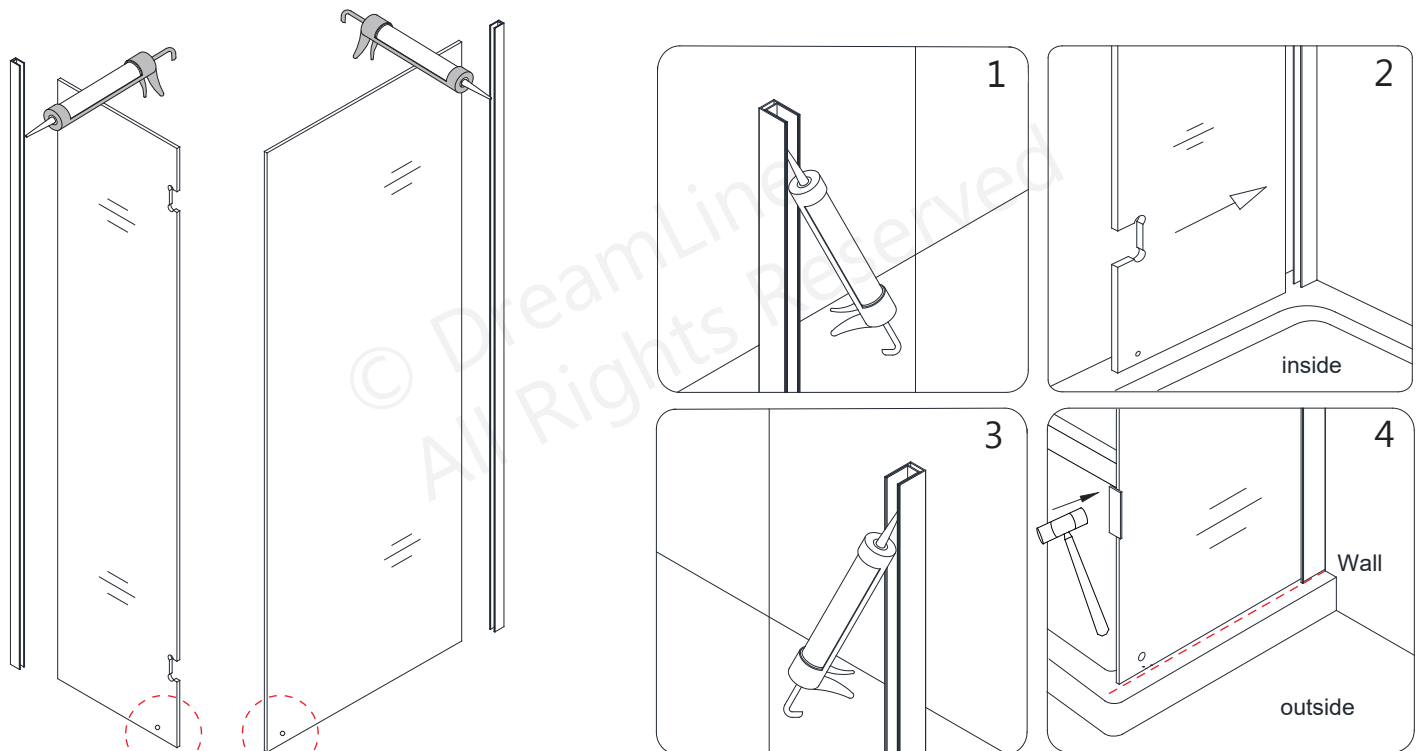

Fig 4
4. Add silicone into the installed **Stainless Steel U-Channels (#11)** before installing the panel glass into the channels. If necessary, tap with a rubber mallet and a block of wood. (Fig 4 and Fig 5)